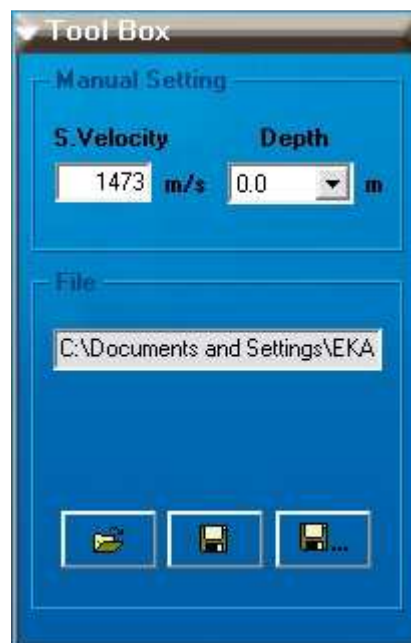

Figure 40 – Sound Velocity Toolbox
1.	Select the S/Velocity tab under Mission menu in the toolbox (see Figure 40), type in the S.Velocity value for each immersion depth appearing in the Depth field. Validate each sound velocity input by pressing the [enter] key. The sound velocity profile updates at each input. The depth value increments and you are ready to enter the sound velocity corresponding to the next depth value.
1.	Select the S/Velocity tab under Mission menu in the toolbox (see Figure 40), click on  button to import a file. The Open... window appears.